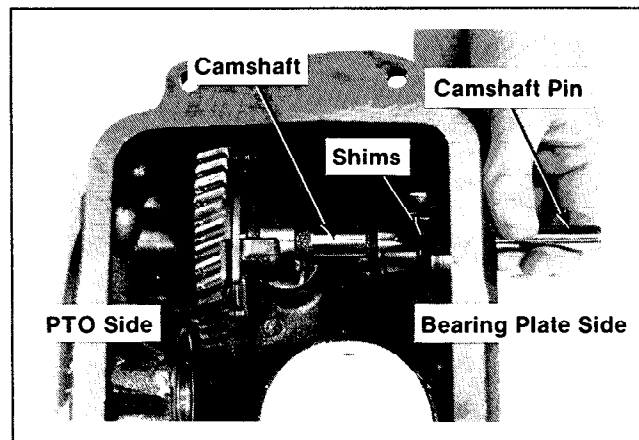

Figure 12-5. Installing Camshaft.
2. Install the camshaft, one .005" shim spacer, and the camshaft pin (from bearing plate side). Do not drive the camshaft pin into its final position at this time. Refer to Figure 12-5.